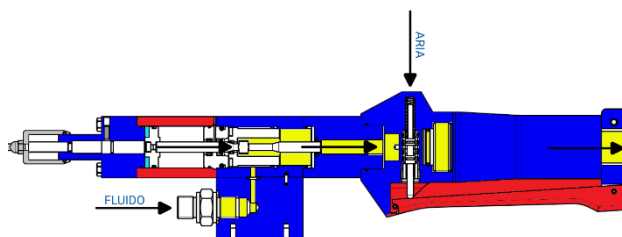

Figure 04 – Dosing Phase
- The fluidic chamber is emptied, and dosing is performed (Figure 04)